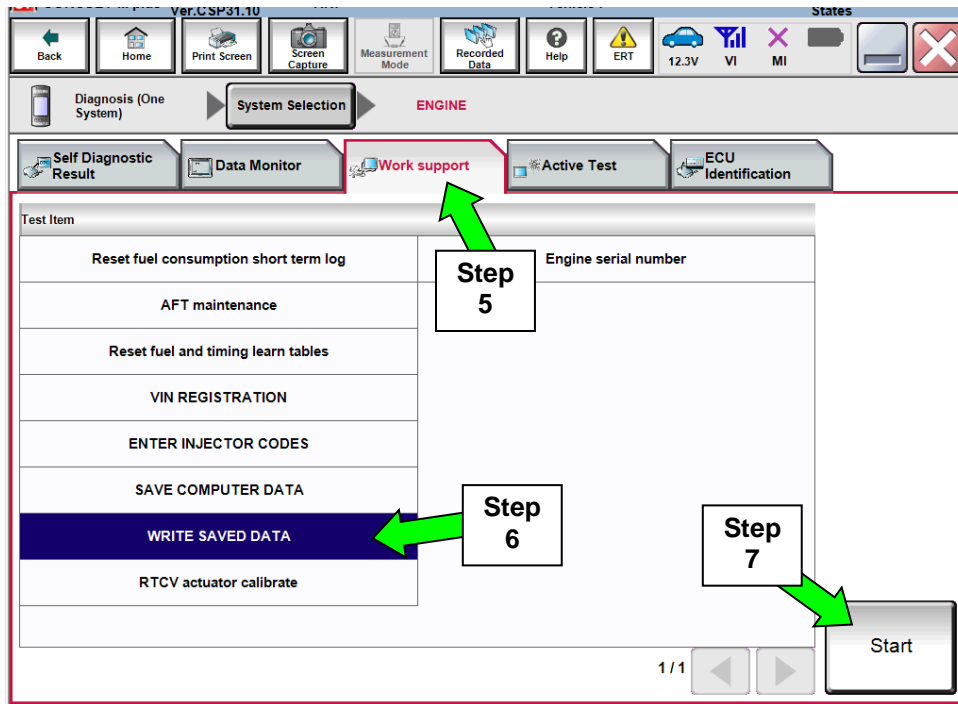

Figure 2A
5. Navigate C-III plus to Engine > Work Support (Figure 2A) by clicking **System Selection** until Engine appears.